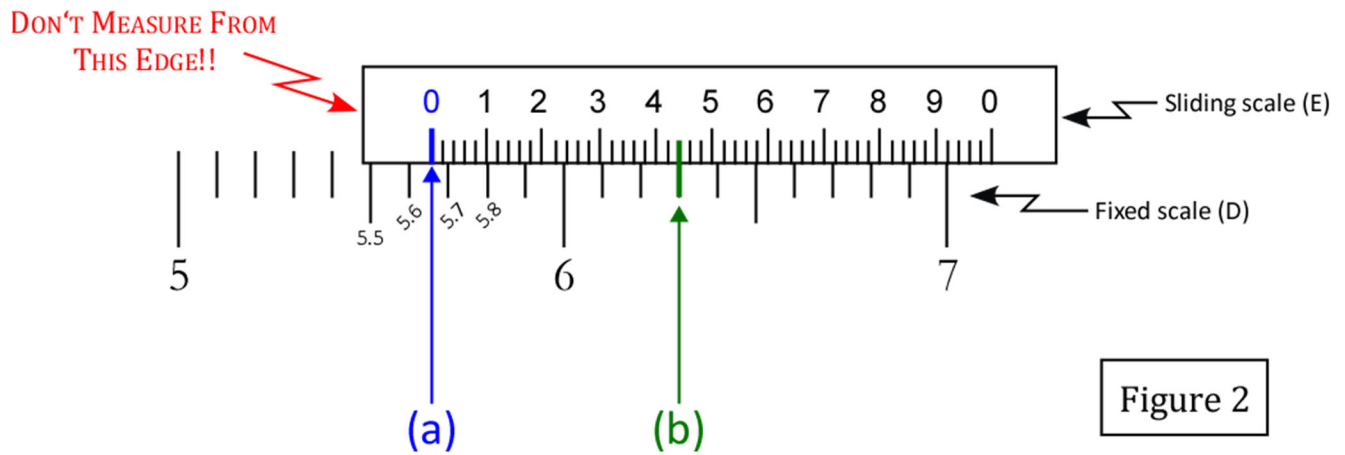

Figure 2
The measurement up to the first digit after the decimal point is obtained by looking at the line below the *first* zero (drawn thicker in *Figure 2* above for emphasis) that appears on the sliding scale (**E**), as indicated by point **(a)** above. In this example you will note that this line falls between the 5.6 and 5.7 *cm* line on the fixed scale (**D**), so we know our measurement falls within this range. Therefore, we'll start our measurement with **5.6**.
4. The next two digits are read by *carefully* finding the line on the sliding scale (**E**) that is straight across from a line on the fixed scale (**D**). Several may look as though they line up, but only one will match best; this line is again drawn thicker in *Figure 2* for emphasis. *Hint*: Hold the caliper at a slight angle away from you, and close one eye! In the example above, we see that the second small line to the right of 4 on the sliding scale is straight across from a line on the fixed scale, at point **(b)**. The last two digits of your measurement come from the sliding scale, *not* the fixed scale! Since the lines on the sliding scale are 0.002 cm apart, the line at point **(b)** represents 0.044 cm . Now adding the total measurements together, you get $5.6 + 0.044 = \mathbf{5.644\text{ cm}}$ as the final reading.